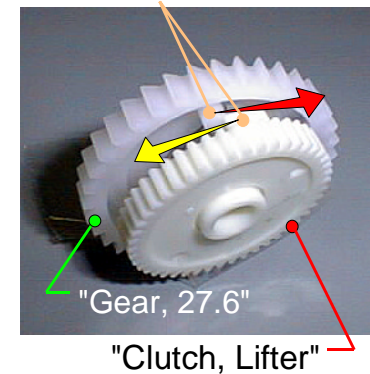

Figure 4-76. Connecting "Gear, 27.6" and "Clutch Lifter"(2)
- Step. C After covering "Gear,27.6" to "Clutch, Lifter", make them go over the hooks, which is located both gear inside. (Refer to Figure4-76)
As it is shown in Figure4-76, rotate "Clutch, Lifter" to yellow arrow direction and "Gear,27.6" to red arrow direction, then make them go over each other's hook.